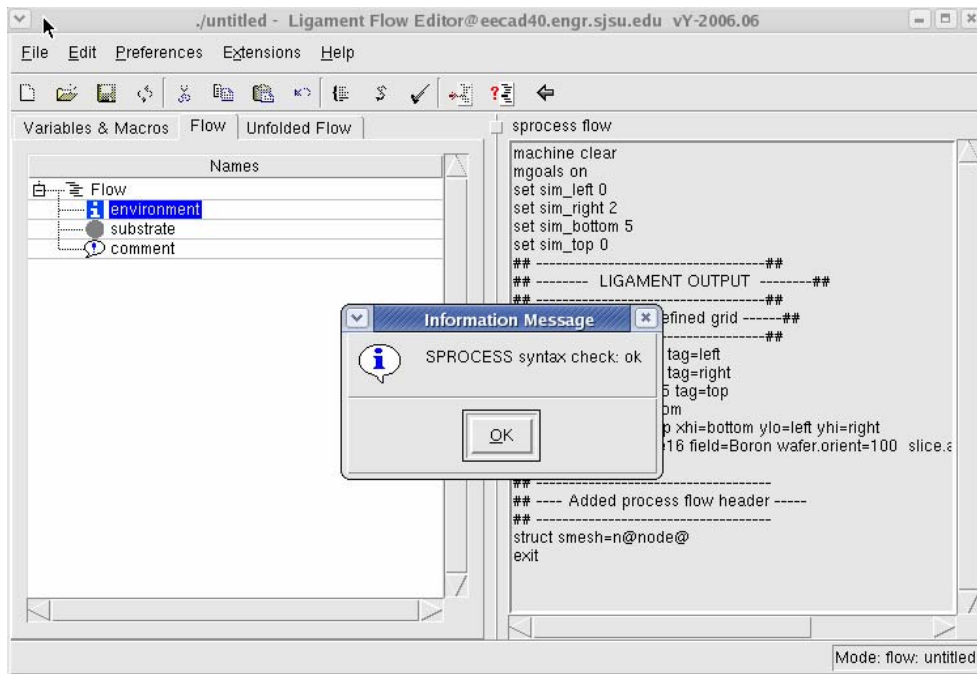

Figure 42: Checking the syntax for the sprocess deck.
12. Check to see if the syntax is acceptable for sprocess by clicking on check translated flow (Figure 42).